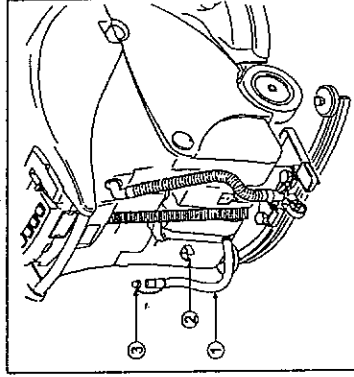

Fig. 14
- detach the drain hose (fig. 14, ref. 1) from its seat, holding it in correspondence with the fixing spring (fig. 14, ref. 2) and pull it horizontally;
- keeping the hose end as much high as possible, take off the drain cock (fig. 14, ref. 3);
- when the contents have been totally drained from the solution tank, close the drain hose with the cock (fig. 14, ref. 3), checking that it is perfectly closed, and put it back in its seat.